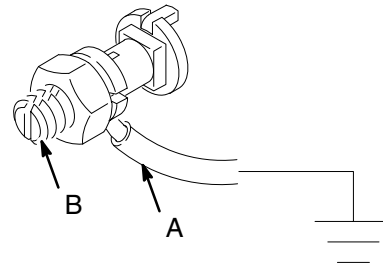

FIG. 2
To ground the agitator, connect one end of the ground wire (A) to the ground connector (B) on the agitator. See FIG. 2. Connect the other end of the ground wire to a true earth ground.